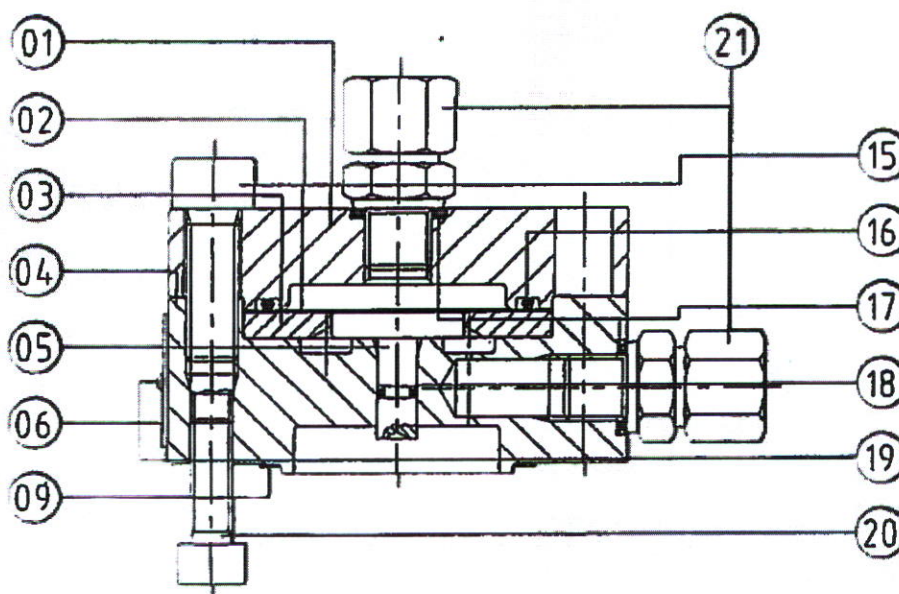

Figure 6: Pressure converter SM 1.x-A
(see figure 6)
- Disconnect impulse line of the pressure converter (pos. 21 in fig. 6).
(see figure 6 and partslist page 39)